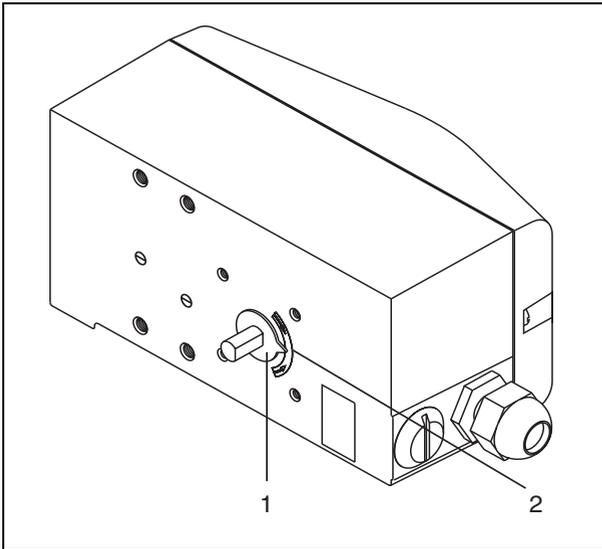

Fig. 7 Operating range
The arrow (1) on the feedback shaft (and thus the lever) must travel within the area marked with the small arrows (2) (see Fig. 7).
- On the basis of the mounting position, the home position, as well as the direction of rotation it must be determined in which position the feedback shaft (1) of the positioner must be pre-adjusted and in which position the adapter (2) must be placed, to enable the positioner to travel within the proper range (**the arrow on the rear of the device must travel within the admissible range, see Fig. 7 on page 10**).
- Place the adapter on the feedback shaft in the appropriate position and fix it by setscrews (3); ensure that one of the setscrews is engaged on the side of the feedback shaft with the flat.